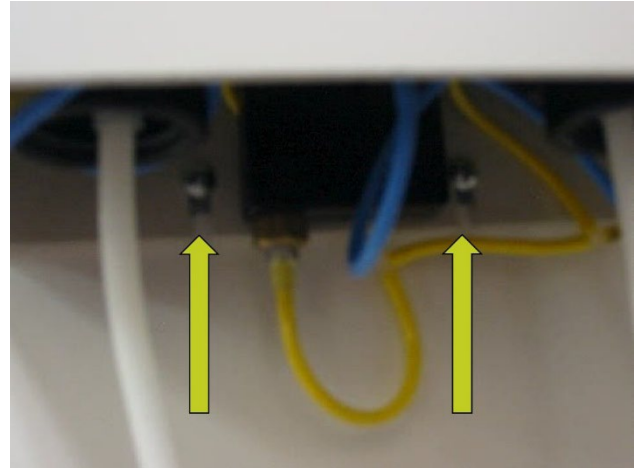

Fig. 2
- 4 Locate two Phillips head screws on back of the existing bracket and loosen with a #2 Phillips screwdriver. (Fig. 2)